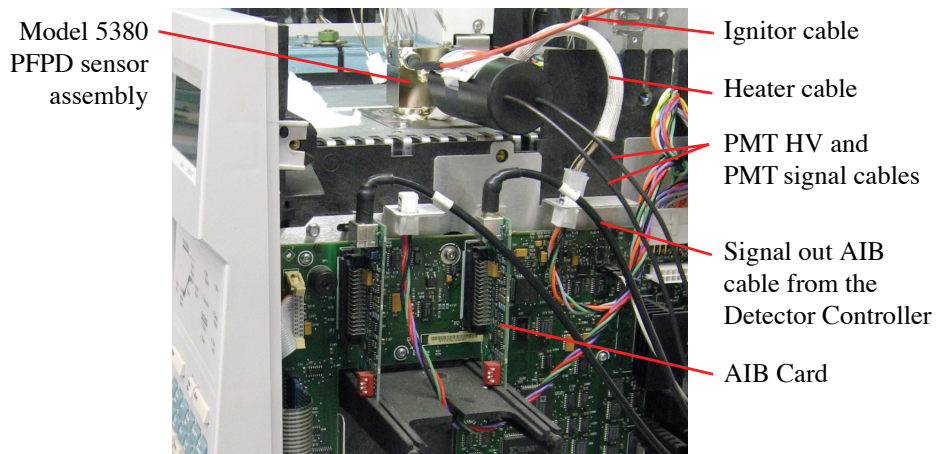
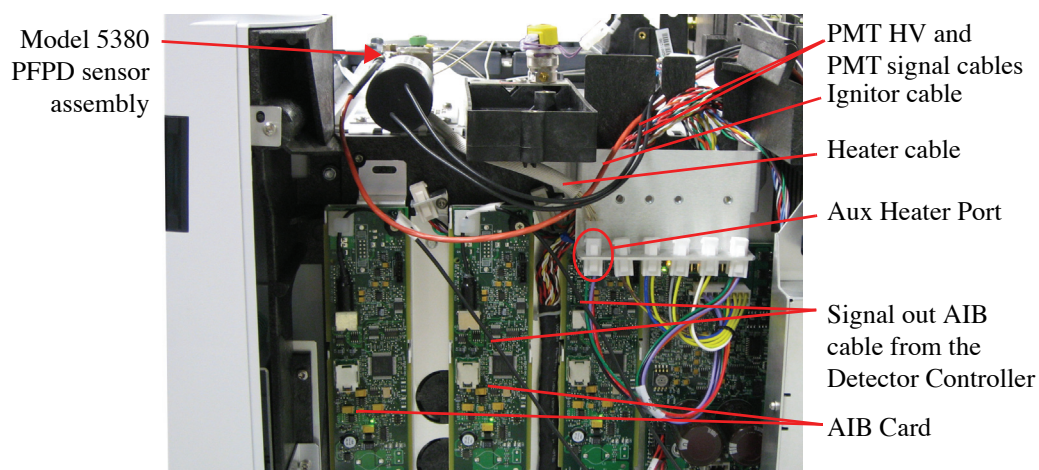
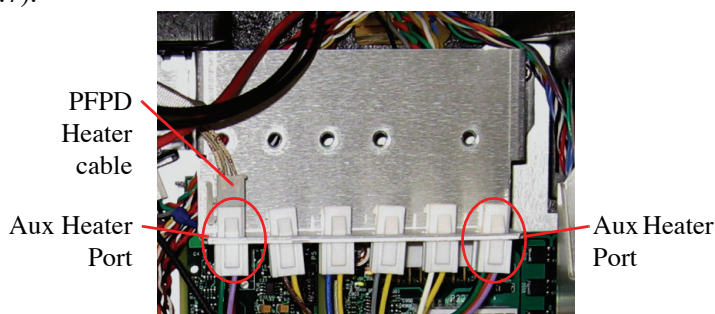

Figure 4.5. Placing the PFPD in the Agilent 6890 and attaching the heater cable
Figure 4.6. Placing the PFPD in the Agilent 7890 and attaching the heater cable
Figure 4.7. Installed Aux Temperature Zone Bracket
4. Carefully press the PFPD assembly and surrounding insulation into the previously hollowed-out insulation plug in the selected detector port (Figure 4.5 for Agilent 6890 and Figure 4.6 for Agilent 7890). Do not excessively bend the leads protruding from the heater element and temperature sensor. Ensure the detector base protrudes into the GC oven cavity and that the detector mounting plate is flush with the metal cover in the detector area.
2. Screw the Aux Temperature Zone Bracket (valve driver bracket) into the right side of the GC using the two captive screws; refer to Figure 4.6 for the location.
4. Plug the larger 2x2 heater sensor connectors (P1,P2) into the outside slots and the smaller 1x2 valve driver connectors (P3 to P6) into the four middle slots (refer to Figure 4.7).
1. Connect the heater cable connector to the corresponding four-pin nylon connector located to the right of the detector port above the motherboard in the Agilent 6890 (Figure 4.5) or Agilent 7890 (Figure 4.6).
2. For a 7890 equipped with an Aux EPC module, plug the PFPD heater cable into the Aux temperature heater port (Figure 4.6 and Figure 4.7).
2. Connect the opposite end of this cable to the appropriate connector on the chromatographic data system signal input (see Figure 4.5 and Figure 4.6 for the AIB connector).